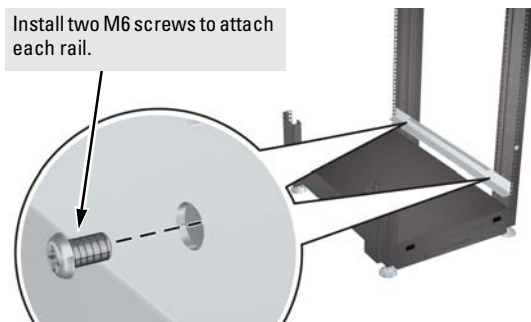

Figure 1. Attaching Rails to a Rack
1. With a posi-drive screwdriver, install two M6 (16-mm) screws and two M6 cage nuts to attach each rail to the rack as shown in the Figure 1. Ensure that the rails are at the same height on each post.